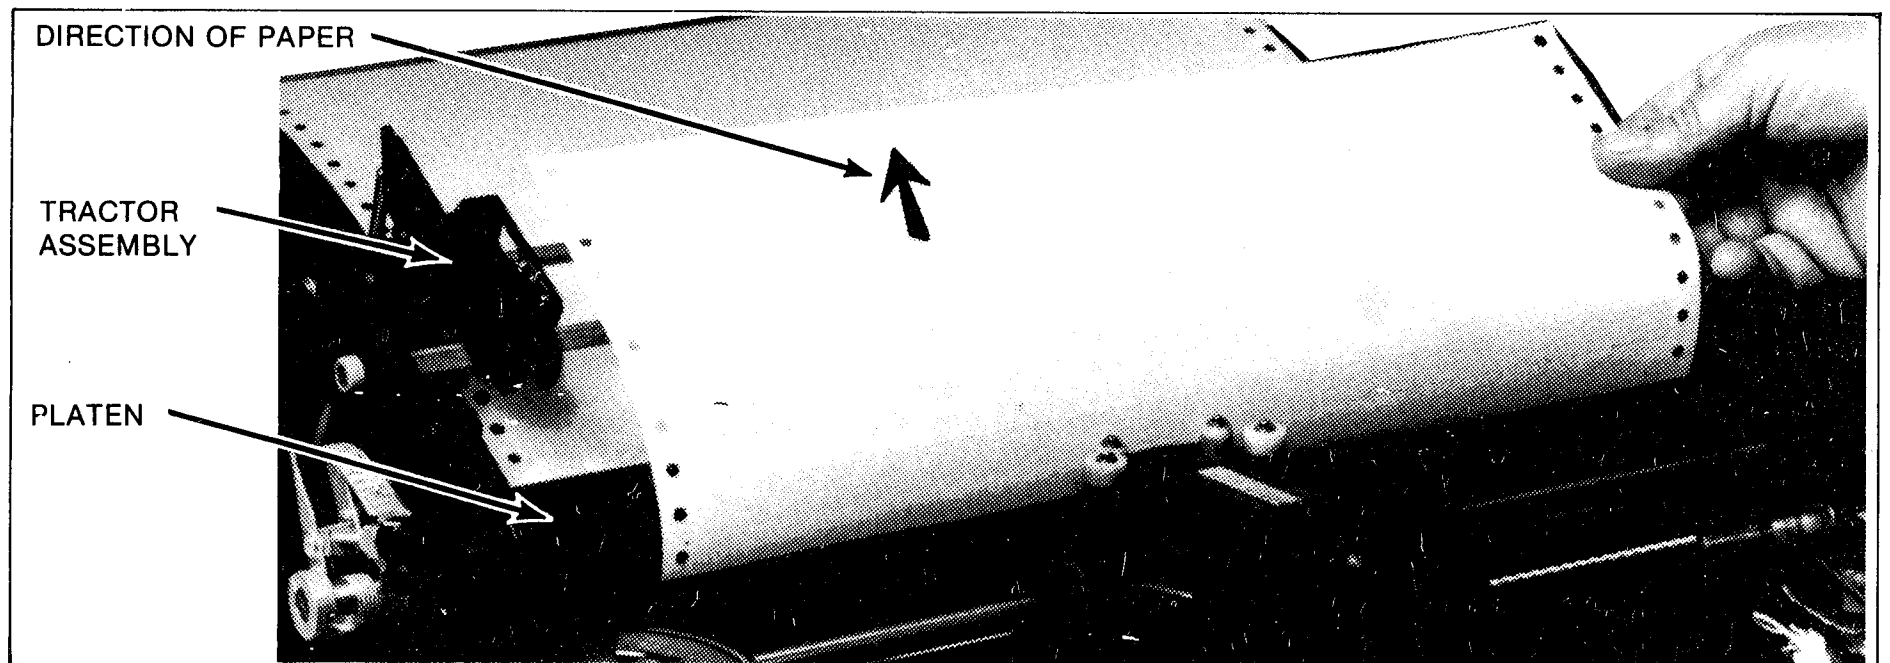

Figure 6. Positioning Paper
- Wrap paper around platen and back over upper tractor assemblies (Figure 6).